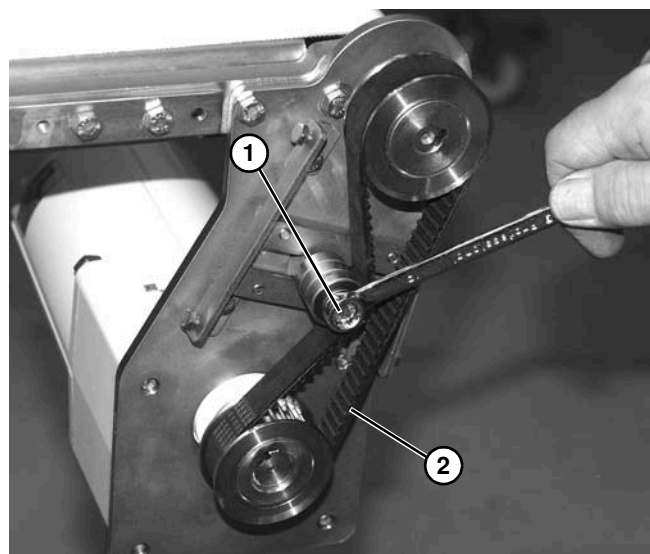

Figure 46
3. Loosen tensioner (Figure 46, item 1).
4. Remove timing belt (Figure 46, item 2).